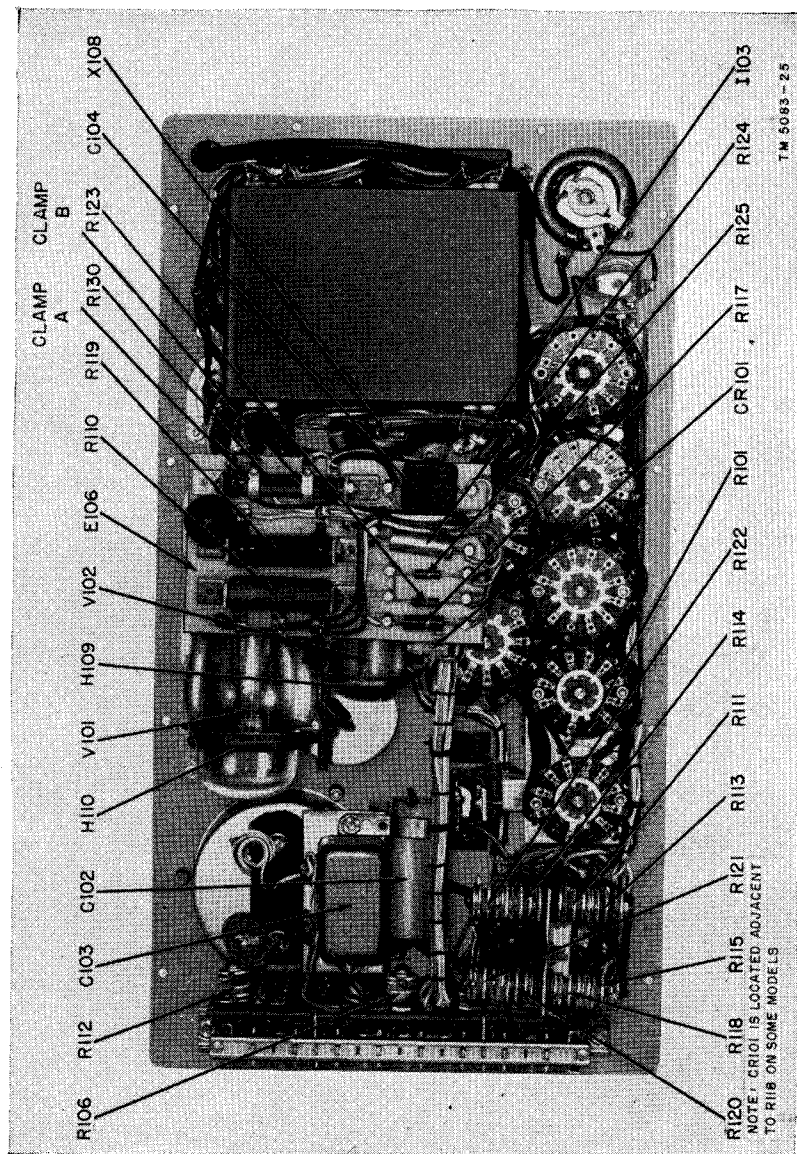
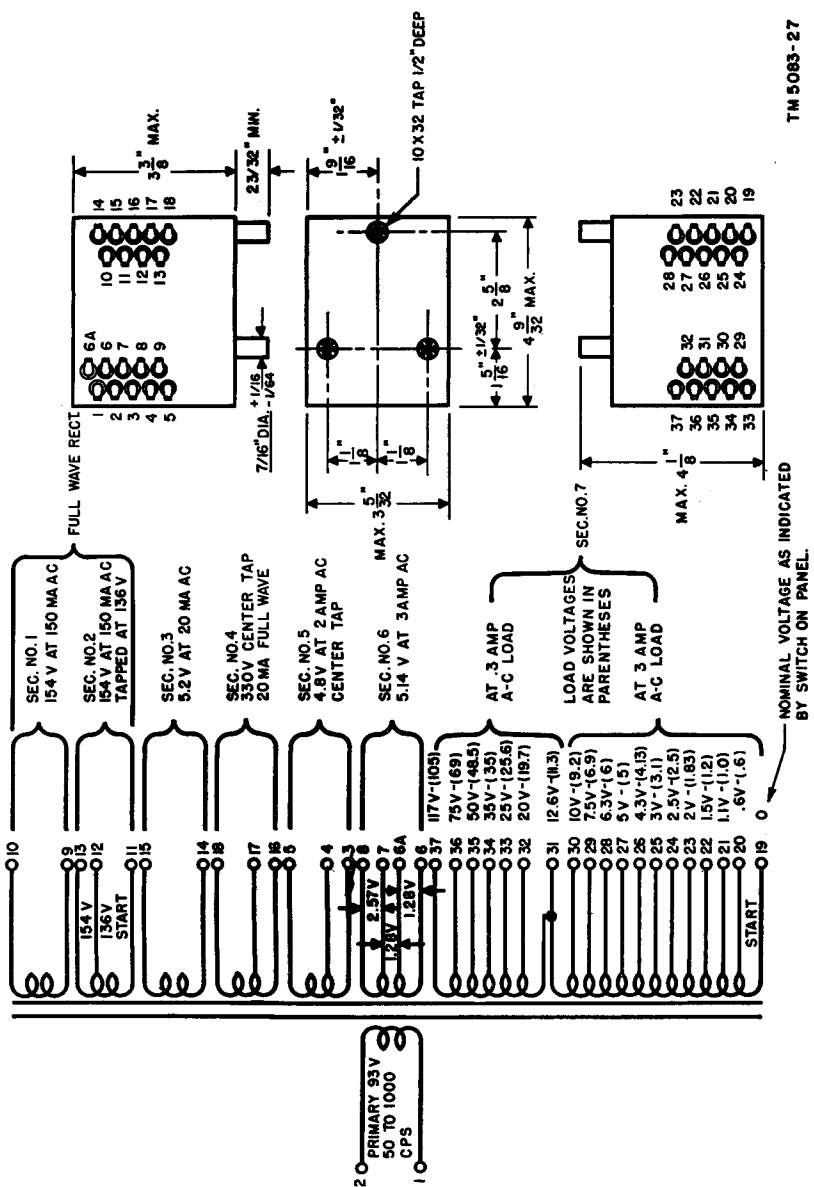

Figure 26. Electron Tube Test Set TV-7/U, direct rear view.
Figure 27. Transformer diagram.
- (1) High plate voltage results from the application of incorrect voltage to the primary of T101.
- (2) Probable causes of incorrect voltages in the test set are listed in paragraph 55.
a. If tapped resistor R130 (fig. 26) is replaced, re-establish proper voltage distribution as follows:
- (1) Set all controls as outlined in paragraph 58, and turn the equipment on.
- (2) Connect the positive (red) lead of the d-c voltmeter to pin 6 and the negative (black) lead to pin 5 of the OCTAL socket XIII.
- (3) Set the BIAS control to 100.
- (4) Loosen and adjust clamp A (fig. 26) of R130 until the voltmeter reads 40 volts plus or minus 1 percent on the 50-volt range.
- (5) Set the BIAS control to zero (0).
- (6) Connect the positive voltmeter lead to pin 4 and the negative lead to pin 6 of the OCTAL socket.
- (7) Depress and hold the 2—DIODE and the 3—MUT. COND. buttons. Loosen and adjust clamp B (fig. 27) of R130 until the voltmeter reads 56 plus or minus 1.5 percent on the 150-volt scale.
- (8) Tighten the clamp screws and recheck the voltages.